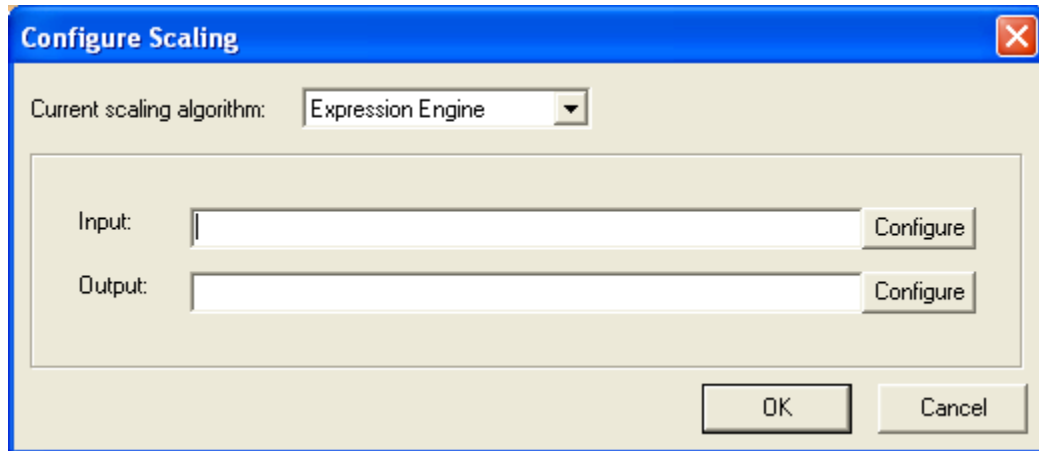

Figure 32 - Expression Engine Configuration
- Select the **Expression Engine** option (Figure 32).